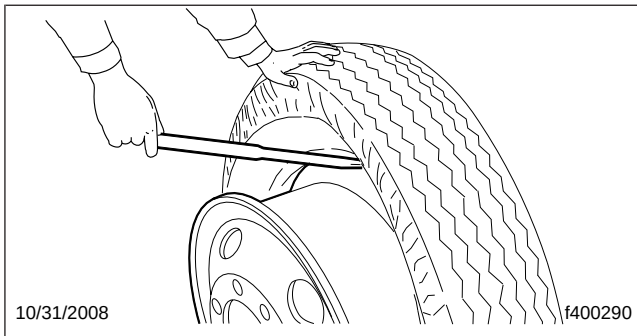

Fig. 3, Prying the Wheel Out of the Tire
- 4.3 Insert the straight end of the tool between the tire bead and the back wheel flange, hooking the tool over the second flange. See **Fig. 3**.